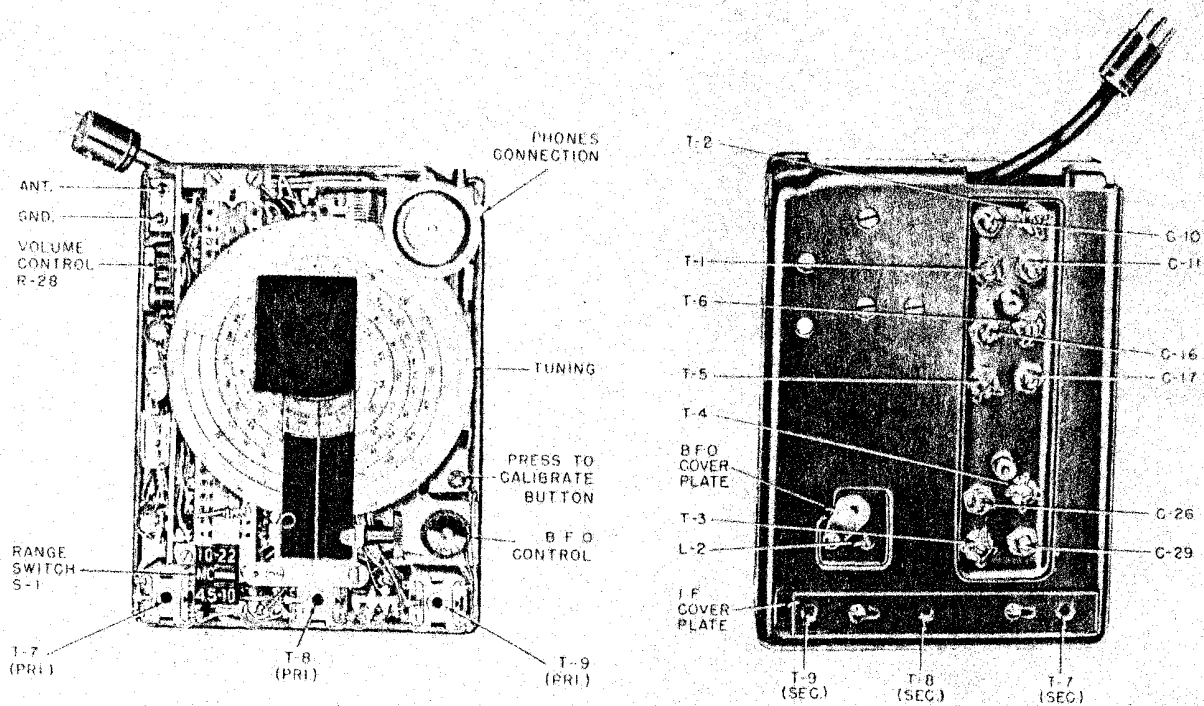

Figure 13. Receiver RR-6A, top and bottom views showing alignment adjustment locations.
(1) Connect the equipment, as directed in Chapter 2, section 1 (do not connect earphones when the output meter is used, as the output load impedance will be reduced by one-half).
(2) Set RECVR-TRANS switch on Filter-Accessory Unit RA-6 to RECVR.
(3) Expose bottom alignment adjustments as follows (see Figure 13):
(4) Connect the output meter across the earphones connector J2. Set the "OHMS" knob to 40 and the impedance multiplier to 100. Set the meter multiplier to 1.
(6) Refer to Figure 13 for adjustment locations.
(7) Remove glyptal from the cores and trimmers in the r-f section with lacquer thinner or acetone. If thinner doesn't loosen the cores sufficiently, apply the heat from a soldering iron.
(2) Set the generator output high enough to give about 5 mw output on the meter.
(3) Tune the primaries and secondaries of T9, T8, and T7 for maximum output on meter. (See Figure 13).
(4) The i-f sensitivity is normal if a generator output of 100 microvolts or less produces 5 mw output.
(1) With the equipment connected as above, turn off generator modulation, and set the BFO dial to zero (The zero on the dial should be at three o'clock when viewed as in Figure 13.)
(2) Adjust the bfo coil (L2) for zero beat.
(3) After alignment of the bfo, apply glyptal to the adjustment screw.